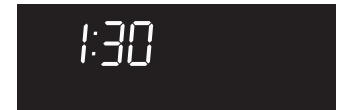

Fig. 2
1. Press and hold  for 3 seconds. A beep will sound. **LOC** will clear. The "**DOOR LOCKED**" will continue to flash until the oven door has completely unlocked (See Fig. 2).